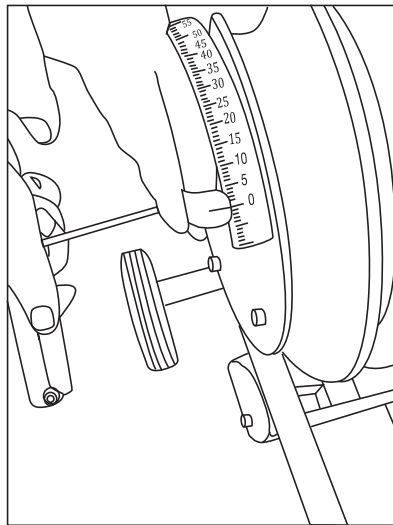

Fig 3
5. Adjust protractor pointer by loosening the Allen screw on the front side of the shoe using a 3/16" Allen wrench (Fig. 3).